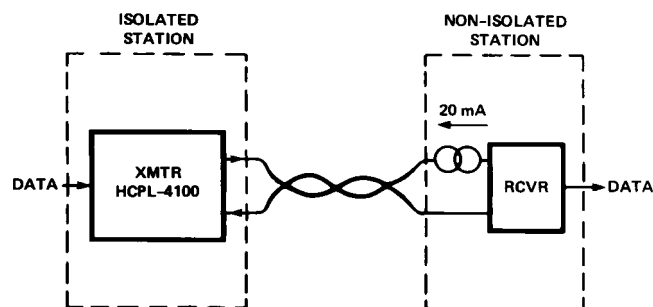

Figure 11. Simplex Point to Point Current Loop System Configuration.
- Derate linearly above a free-air temperature of 70 °C at a rate of 2.3 mW/°C. A significant amount of power may be dissipated in the HCPL-4100 output circuit during the transition from the SPACE state to the MARK state when driving a data line or capacitive load ( $C_{OUT}$ ). The average power dissipation during the transition can be estimated from the following equation which assumes a linear discharge of a capacitive load:  $P = I_{SC} (V_{SO} + V_{MO})/2$ , where  $V_{SO}$  is the output voltage in the SPACE state. The duration of this transition can be estimated as  $t = C_{OUT} (V_{SO} - V_{MO})/I_{SC}$ . For typical applications driving twisted pair data lines with NRZ data as shown in Figure 11, the transition time will be less than 10% of one bit time.
The simplex configuration, whether point to point or multidrop, gives unidirectional data flow from transmitter to transmitter(s). This is the simplest configuration for use in long line length (two wire), moderate data rate, and low current source compliance level applications. A block diagram of simplex point to point arrangement is given in Figure 11 for the HCPL-4100 transmitter optocoupler.